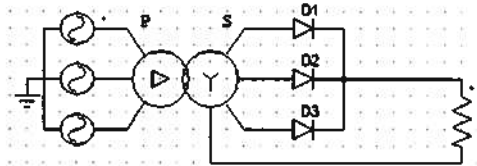

Figure 6. Diode rectifier circuit for question 19
19. In figure 6 shown below a diode rectifier circuit, if the diodes D1, D2 and D3 are connected to phases R, Y and B respectively the diode D1 would conduct from